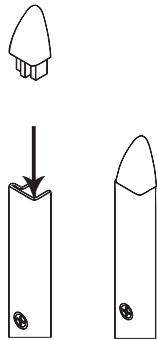

Figure 3
**Step 7:** Place each finial in the top and bottom ends of each standard **Figure 3**.